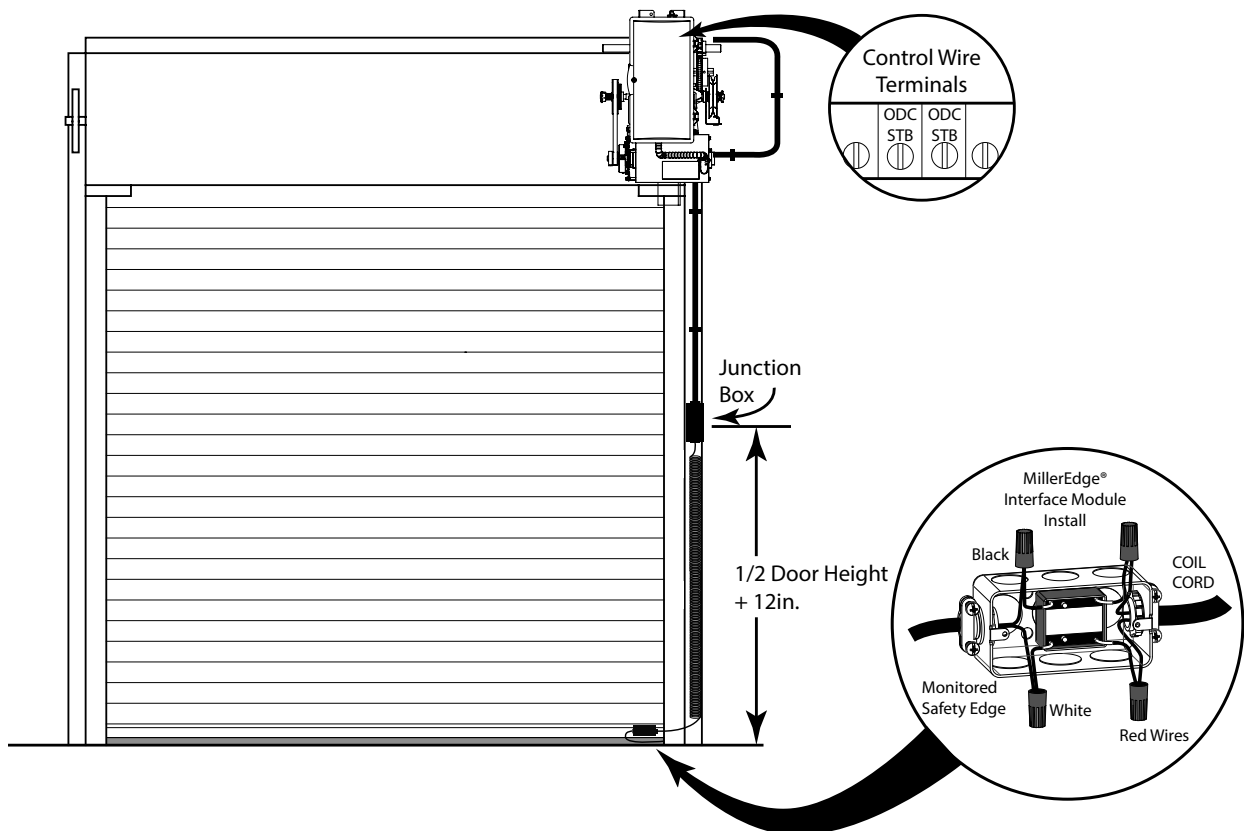

Fig. 6
- 7) Install cover plate. Fig. 6